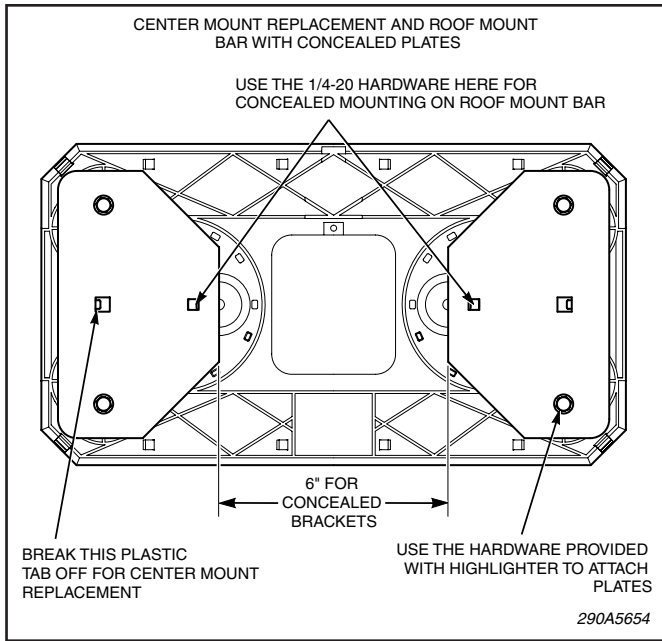

Figure 1.
This kit enables a HighLighter Solaris LED to replace an older halogen or strobe model where the two center mounting bolt features have been used. If this is the case, install the plates as shown in figure 1.
2. Attach each of the brackets to the bottom of the HighLighter as shown in figure 1. Use the
c. Slide the two 1/4-20 carriage bolts into the channel on the top of the roof mount bar. Using the provided 1/4-20 locking nut and flat washers, secure the plated with their edges located at each of the marks. See figure 1.